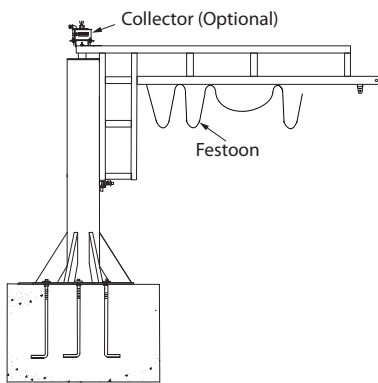

Figure 5A
Note: This procedure may differ depending upon the festoon option you choose (See Figures 5A, 5B, and 5C). Festoon cables and trolleys are optional.
2. Flat cable festoon (Figure 5A)